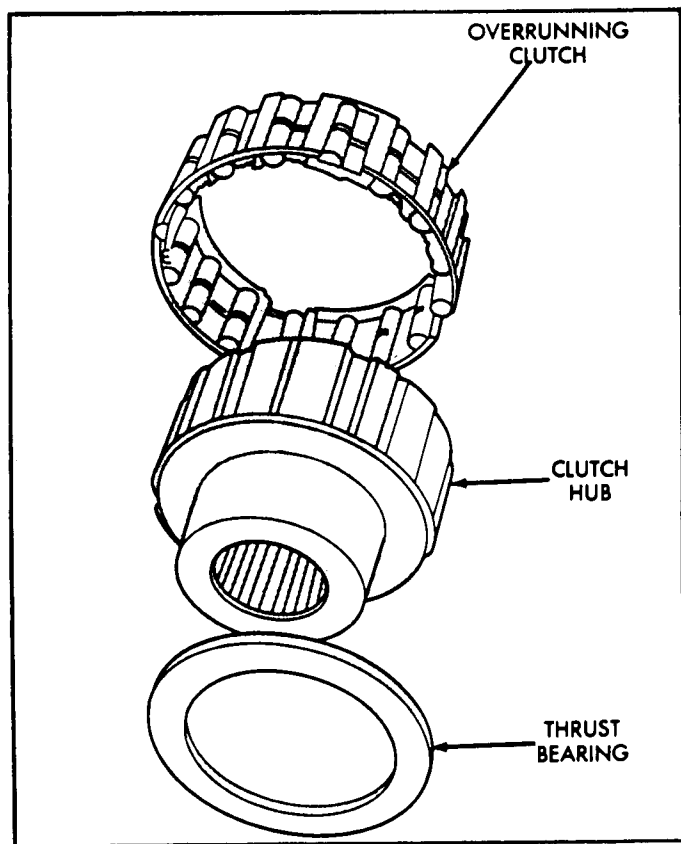

Figure 18
25. Remove overrunning clutch from clutch hub, as shown in Figure 18.